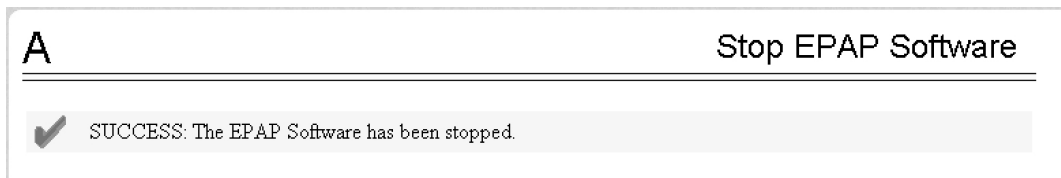

Figure 22: Stop EPAP Software - Success
5. When you stopped the software on the selected EPAP, the screen in Figure 22: Stop EPAP Software - Success displays: